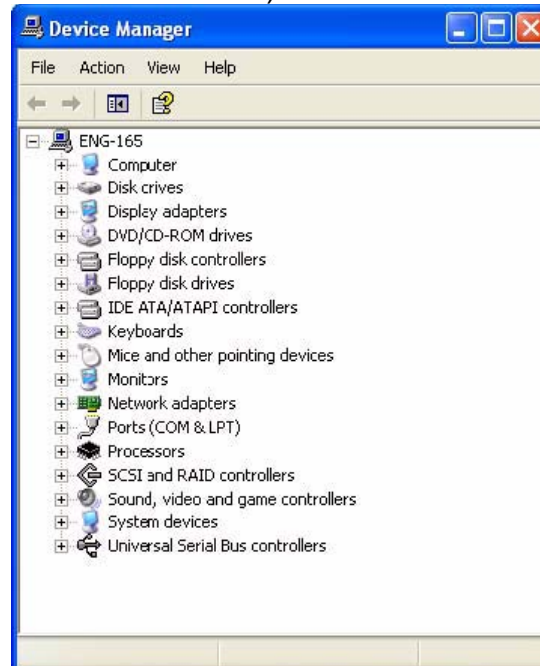

Figure 7-10 Device Manger
4. Click the **Device Manager** button. (Figure 7-10).